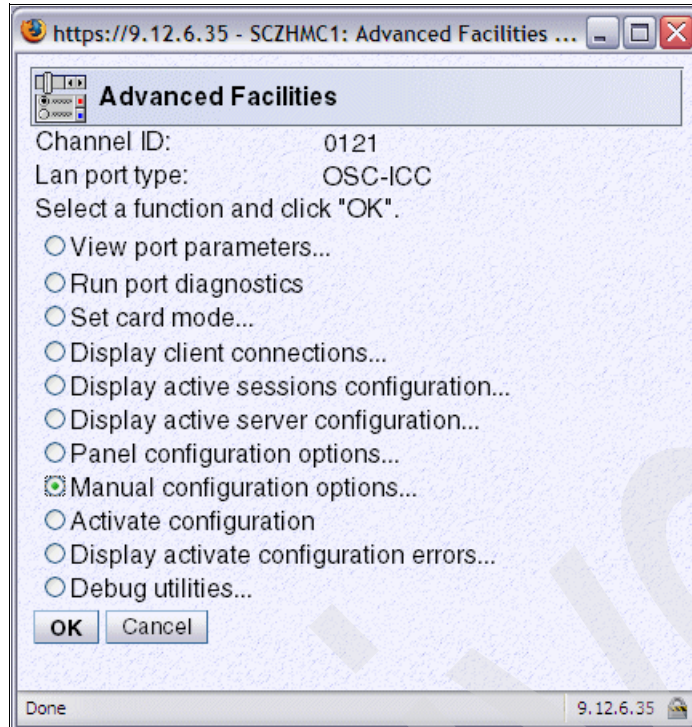

Figure 3-29 HMC - OSA Advanced Facilities (Manual config)
6. Select the radio button **Manual configuration options...**, and click **OK** (Figure 3-29 on page 91).